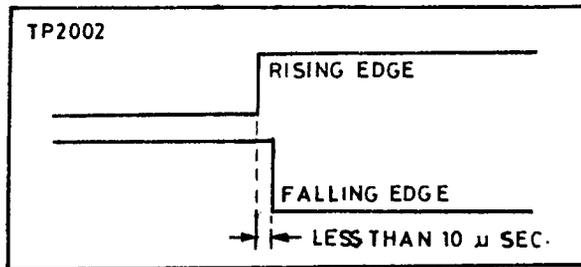

Fig. 11.8 Switching edge difference
5. Now switch the slope selector on the slope to either (+) or (-) and adjust R 2012 or R 2014 for less than 10μ sec difference as shown in fig. 11.8.